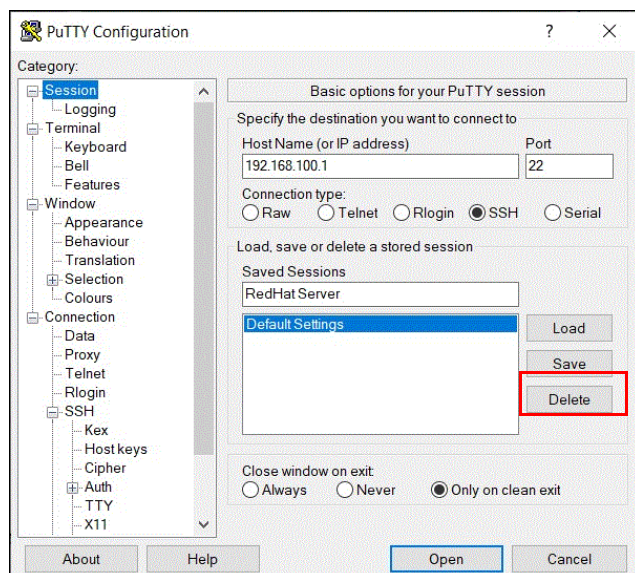

Figure B-12 Session information
8. Enter the following information in the fields in the right pane (see Figure B-12):
9. Click **Save** to save the new session (Figure B-12).